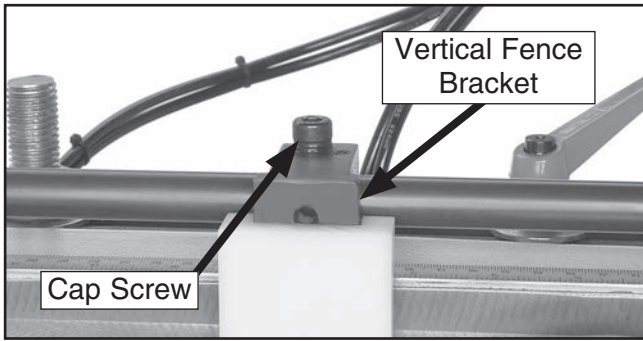

Figure 26. Vertical fence adjustment cap screw.
- Loosen the cap screw on the vertical fence bracket shown in **Figure 26**.